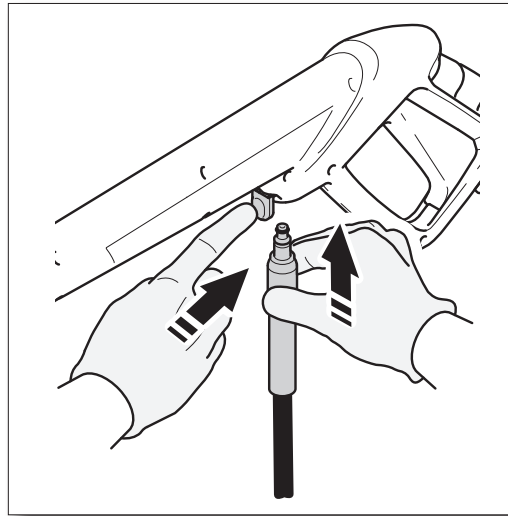

Fig.5
- Connect the other end of the high pressure hose to the spray gun by inserting the brass metal tip of the high pressure hose into the fitting just ahead of the trigger guard. It will lock into the spray gun with a “click” (**Fig. 5**). Confirm the hose is locked into the spray gun by pulling slightly on the hose. The hose is now securely attached to the spray gun.